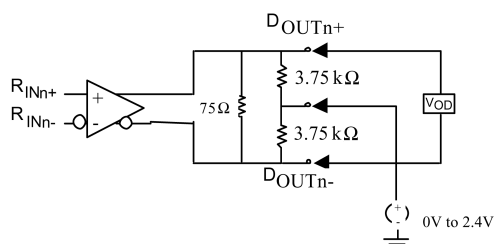

FIGURE 1. Common Mode Supply Test Circuit
1. When the true and complement LVDS outputs (having a 75Ω connected between outputs) are connected to $3.75\text{ k}\Omega$ resistors and the common point of those $3.75\text{ k}\Omega$ resistors are connected to a voltage source that sweeps from 0 to 2.4V, the DC V_{OD} and ΔV_{OD} are still maintained (see Figure 1).